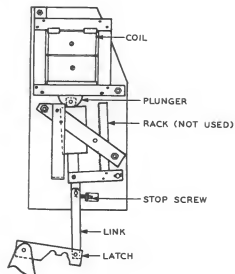

Fig. 15 - Solenoid-type Undervoltage Release — Without Time-delay Feature
(1) If the undervoltage release of the contactor type does not hold closed firmly at the line voltage, be sure the circuit through the stop button switch and overload relay contacts in series with the coil is complete. (See circuit on inside of starter cover.) Check that the spring holds the armature against the pole piece even when there is no voltage on the coil. Check the voltage across the coil with a voltmeter. If the voltage is satisfactory, connect the meter in series with the coil. A reading of no voltage indicates an open-circuited coil which should be replaced.
(2) If the plunger on the solenoid type of release does not pull up, check the coil with a voltmeter across it and in series with it as above. If the coil is satisfactory, check for binding of the mechanism. If the plunger pulls up but the latch does not hold in, check for worn latch mechanism. Then note the action of the two links between the latch and the release mechanism shown in Fig. 15. These links are pinned together and have a toggle action so that the rising of the solenoid holds them against the adjustable stop screw and holds the latch engaged. If the stop screw is adjusted inward so far that the links can not be brought up to center (in line), the latch will not be held engaged. The latch also will not be held engaged if the screw is outward so far that the links go much beyond center on the stop side. The best adjustment is for the links to be on center when the solenoid is pulled up. If necessary, adjust the stop screw accordingly and check the action of the release mechanism for holding on line voltage and for releasing on no voltage.
(3) If the release of either the contactor or solenoid type does not allow the starter to trip when the voltage across the coil decreases, check for binding of the armature, solenoid, linkage, etc.
(4) If the delay in the release of a starter equipped with a delay feature is outside the limits, examine the mechanism and remove foreign material, grease, or dirt as required. The form K33 starter may be provided with a dc time-delay release of the contactor type. The time delay on this type can be varied by using nonmagnetic shunts of different